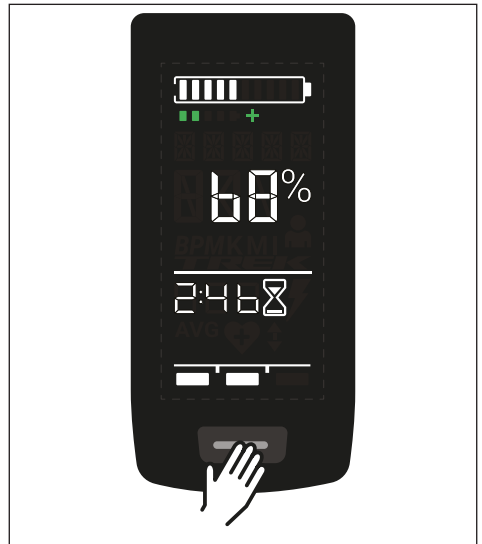

Fig. 3: Button on Display
- ▶ Switch on the drive unit by **shortly** pressing the button (see Fig. 3) on the Display.
- ▶ Switch off the drive unit by **long** pressing the button (see Fig. 3) on the Display.